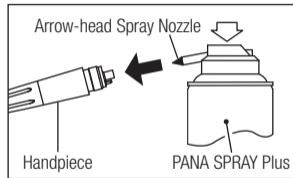

Fig. 11
- 2) Insert the arrow-head spray nozzle tip into the spray can. (Fig. 11)